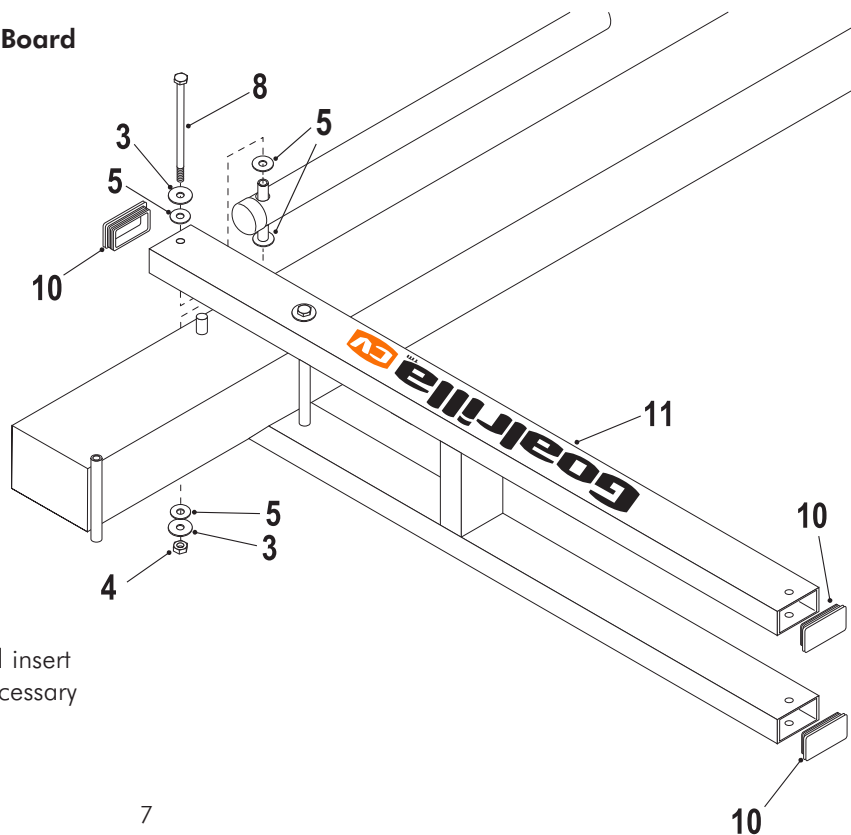

Figure 6
6. Secure Actuator (#16) to Lower Arm (#11) using one bolt (#8), two flatwashers (#3), four plastic washers (#5) and one hex nut (#4). See Figure 6. **Tighten both bolts (#8)** securing Lower Arm (#11).